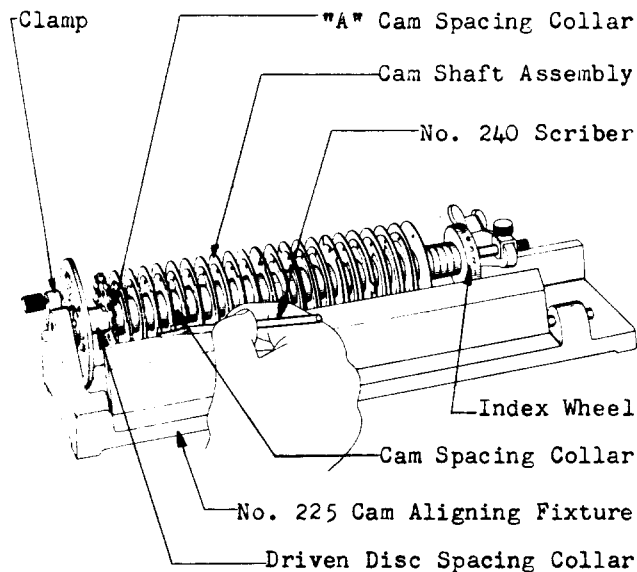
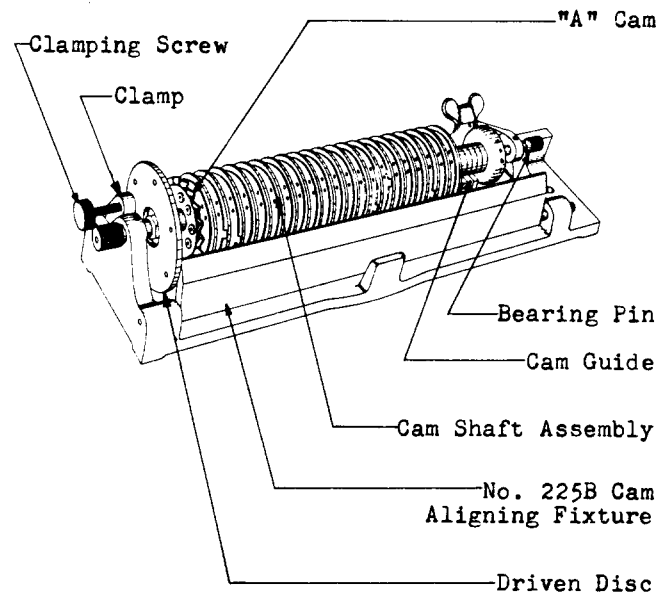

Fig. 12 - Method of Scribing Cams
Fig. 13 - Method of Using the No. 225B Cam Aligning Fixture
3.22 Mount the camshaft assembly in the No. 225 or the No. 225B cam aligning fixture as shown in Fig. 12 or Fig. 13 and clamp the driven disc at a convenient point.
3.24 Scribe a reference line on the edge of the cams with the No. 240 scriber, as shown in Fig. 12. Scribe a new reference line each time the camshaft assembly is dismantled.